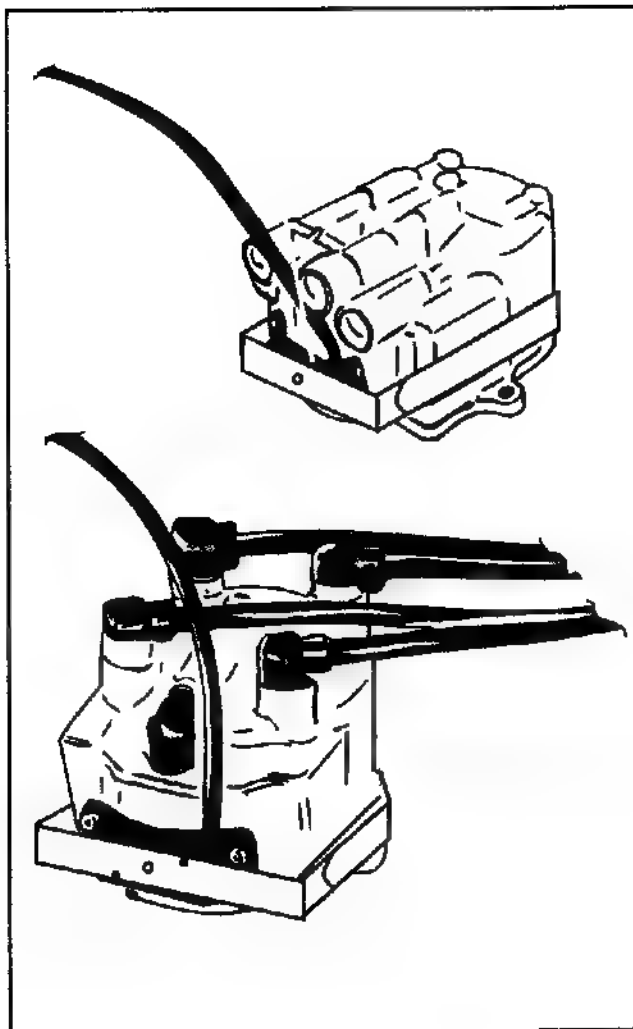

Figure 1-31
3. Wrap adapter probe clip strap tightly around distributor cap, then press velcro ends together to secure (see Figure 1-31).